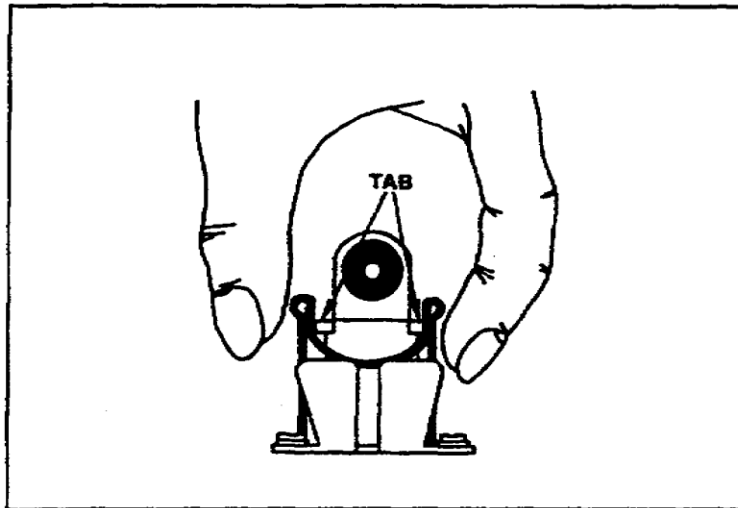

Figure 1-20. Spring unlatched.
32. Preparation for vertical mounting of the telephone set. Loosen and lengthen the carrying sling. Loosen and unsnap the handset tie-down strap. Lift up the handset off-hook. Place it under the telephone set and snap it into place. Check the handset retaining spring to ensure it is in the unlatched position. It should be forward past the tabs. (See Figure 1-20.) Use the carrying sling to secure the telephone set to a pole or tree. Place handset on hook.